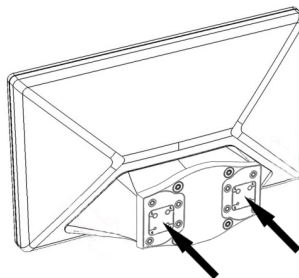

Figure 39: Device with VESA adapter
- The upper side of the crosspiece adapter is the side with the four protruding metal pins (Fig. 39).